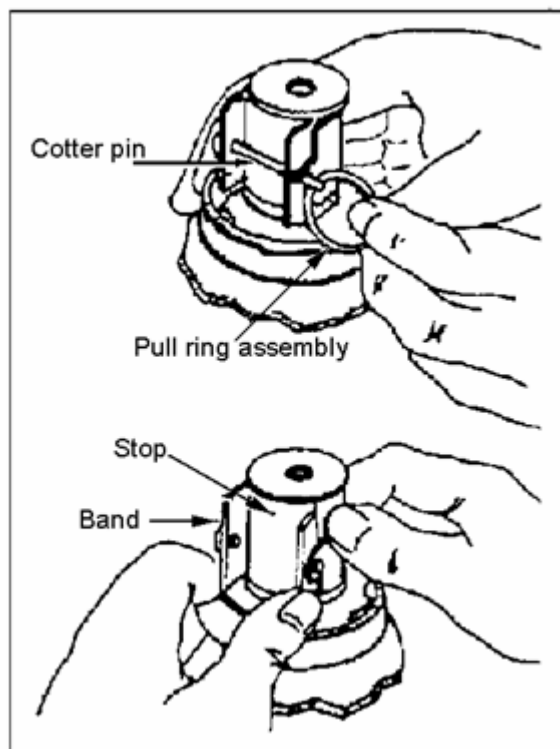

Figure 052-192-1117-5
- a. Squeeze the end of the cotter pin together on the pull ring (Figure 052-192-1117-5).